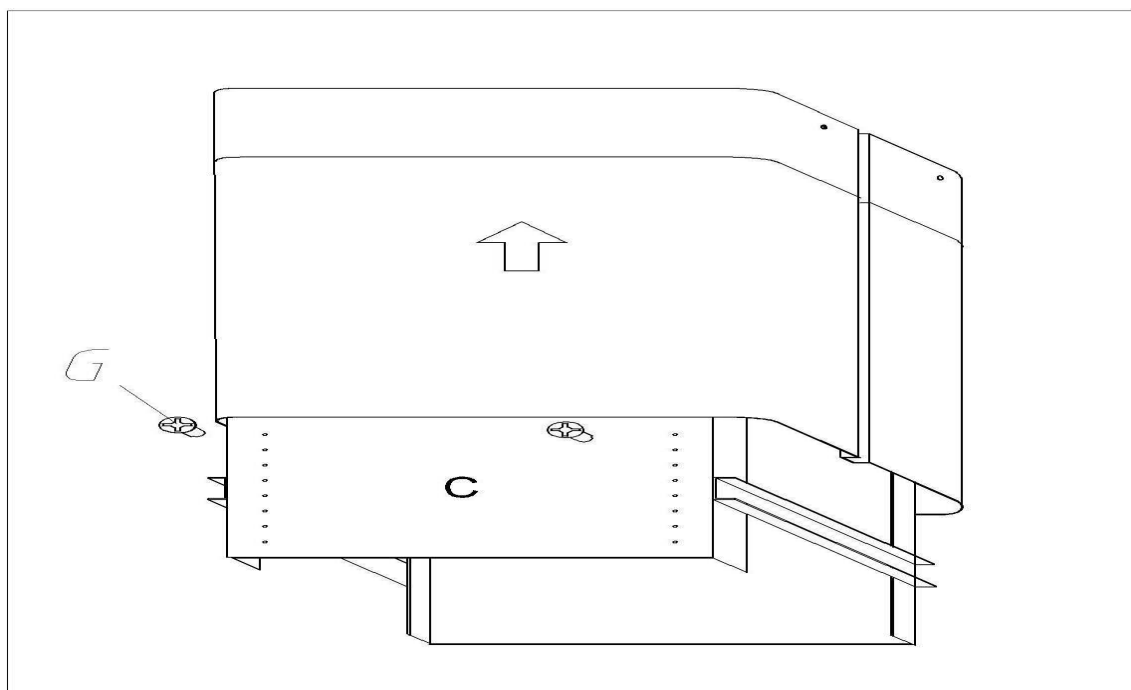

Fig.8
10. Take the lower chimney and fix it with 2 unit screws **G** (Fig.8).